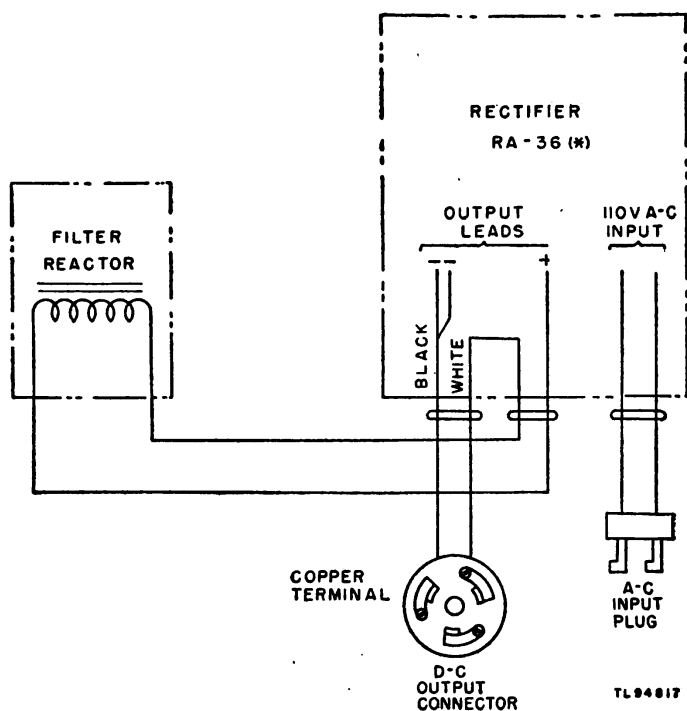

Figure 19. Rectifier RA-36(\*), external reactor connections.
b. RECTIFIER RA-36-(1) AND RECTIFIER 6RB6B17. The following information applies particularly to these models.
(1) Wiring diagram. (See fig. 19.)
(1) *With the unit connected to the supply voltage*, a voltmeter can be used to determine continuity or lack of continuity in the secondary transformer. Use the voltohmmeter in Test Set TS-26/TSM, or a meter with a 125-volt scale or greater, and test for voltage between the contact points on the plug boards or tap switches of these units. See figures 19 and 21 for test points. If this test shows there is no voltage in any of the secondary windings the defect is probably in the primary.